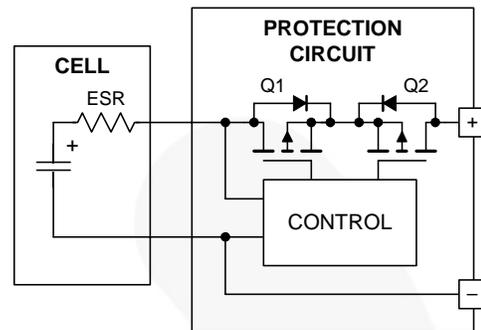

Figure 1. Li-Ion Battery Pack
- For functional clarity, Q1 and Q2 are shown as PMOS MOSFETs in series with the positive leg in Figure 1. Most protection circuits use NMOS MOSFETs in the return leg instead for lower cost.